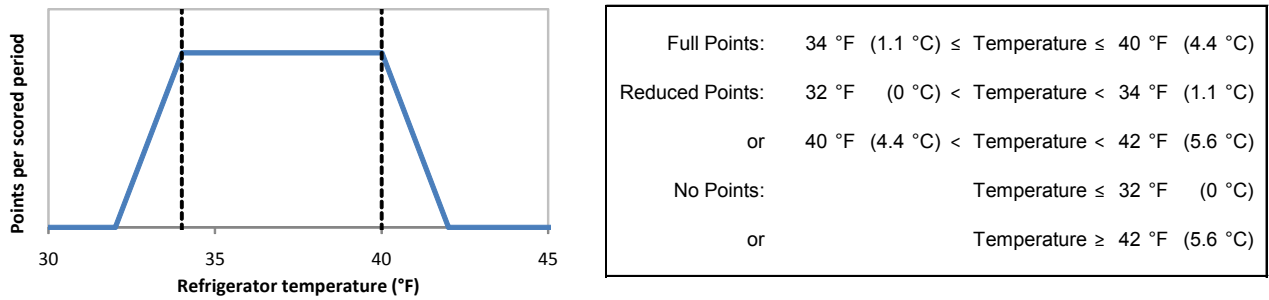

Figure 7: Scoring function for the Refrigerator subcontest
- Reduced points are earned if the time-averaged interior refrigerator temperature is between 32.0°F (0.00°C) and 34.0°F (1.11°C) or between 40.0°F (4.44°C) and 42.0°F (5.56°C). Reduced point values are scaled linearly, as shown in Figure 7.